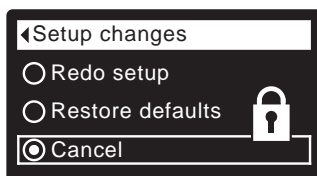

FIG. 40
8. Press the RIGHT (►) button. A flashing padlock icon will appear, as shown in Figure 40.
- 1-7. Go to the **Setup changes** screen (Figure 40) by following Steps 1-7 at left.